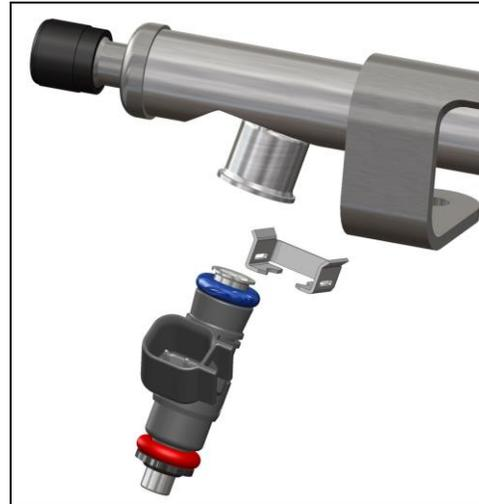

Figure 2
9. Remove injector retaining clips and then remove injectors. Pull straight down on the injectors while gently twisting them (**Figure 2**).